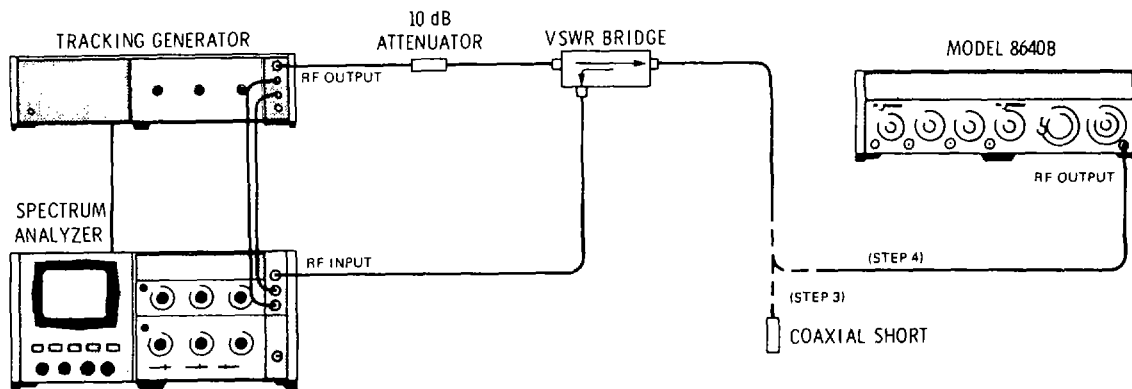

Figure 4-14. Output Impedance Test Setup (Out of Band).
1. Connect equipment as shown in Figure 4-14 after setting Signal Generator's controls as follows: